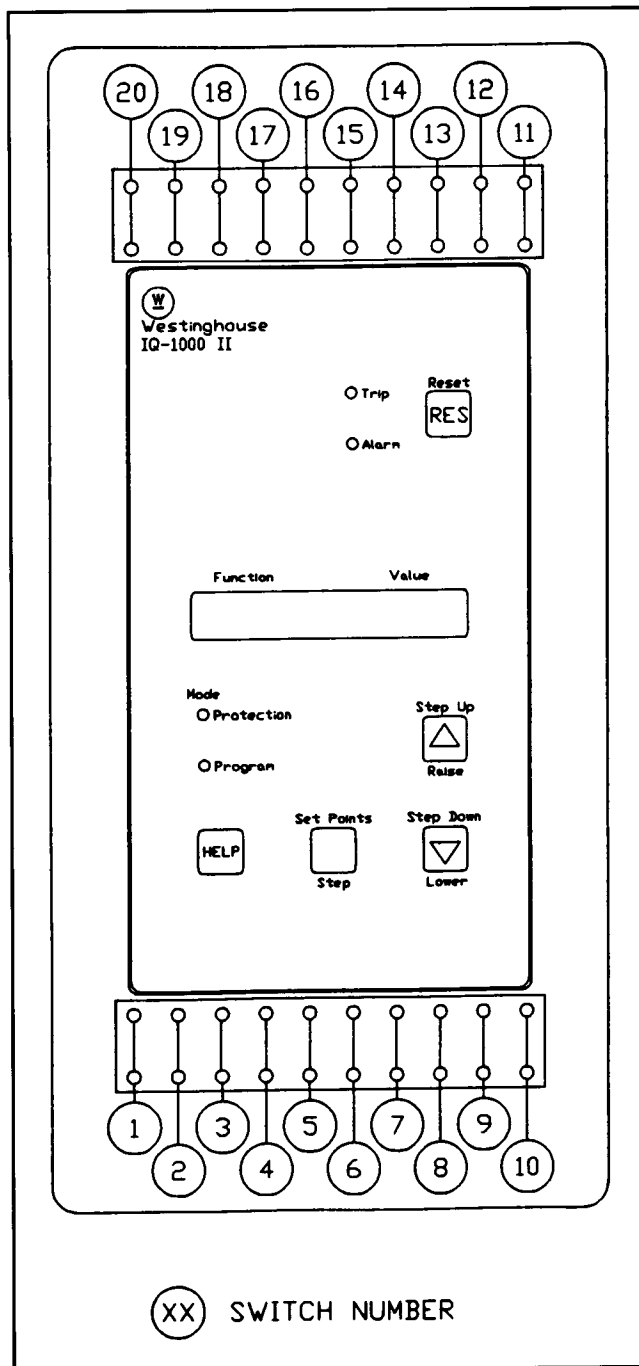

Fig. 5 Drawout Case Knife Switch Numbering
Step 3 – To prevent a trip from occurring, open knife switches #4 through 10 at the bottom of the drawout case first. See Figure 5. Open the remaining knife switches.
Step 2 – To prevent a trip from occurring, close knife switches #1 through 3 and #11 through 20 first. After closing these switches, close switches #4 through 10. Refer to Figure 5 for knife switch numbering.